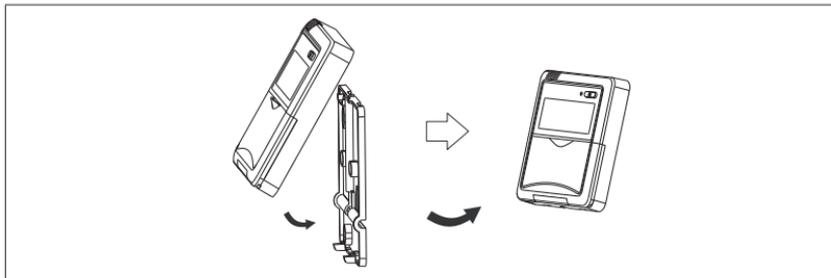

Figure 4. Reattach Cover to Wall Plate
5. Reattach the cover to the wall plate. See figure 4.